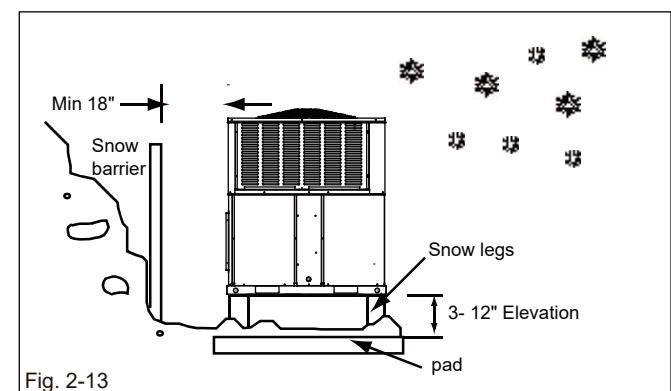

Fig. 2-13
- Units should be elevated 3-12 inches above the pad or rooftop, depending on local weather. This additional height will allow drainage of snow and ice melted during defrost cycle prior to its refreezing. Ensure that drain holes in unit base pan are not obstructed, preventing drainage of defrost water (See Fig.2-13).